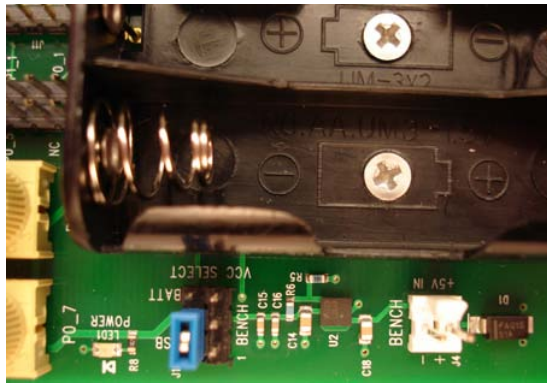

Figure 3-4. Jumper Set For USB Supply
- To use USB power, place the jumper as shown in Figure 3-4 below. USB power comes from the USB Communication Port (location 10 in Figure 3-1) when used with the Evaluation Test Tool. Note that USB power cannot be used with the USB Programming/Debugging Port (location 3 in Figure 3-1).